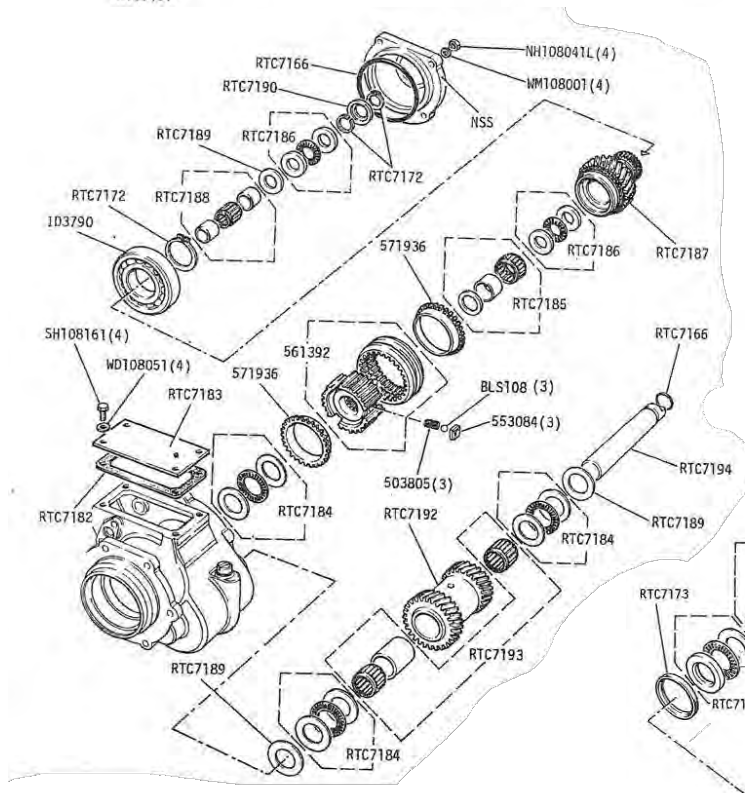

figure 2
2. Remove the top cover plate (RTC7183, fig. 2).
1. Remove circlip and collar (RTC7172 and RTC7190, fig. 2)
2. Remove the next circlip, then the axial bearing group (RTC7186, fig. 2) consisting of two hardened races and the bearing cage, and finally the pack of shims (RTC7189, fig. 2). These serve to adjust the end float of the whole main/outputshaft assembly.
3. Remove the input gear assembly (RTC7187, fig. 2) together with the ball bearing (ID3790, fig. 2). It should come out easily as it is designed to be a loose fit. Should problems be experienced however, warming the housing with a blow torch will normally free it. If no such tool at hand, leave it in until the output gear shaft has been taken out, then tap it out from inside the housing. Take care not to lose the needle bearing and the two distance sleeves inside (RTC7188, fig. 2)
4. Remove the second axial needle bearing group and the radial needle bearing (RTC7186 and RTC7185, fig. 2). Take the synchromesh cone out (571936, fig. 2)
The inner race (RTC7185, fig. 2) is a light press fit on the mainshaft and holds the mainshaft in its position inside the output gear shaft.